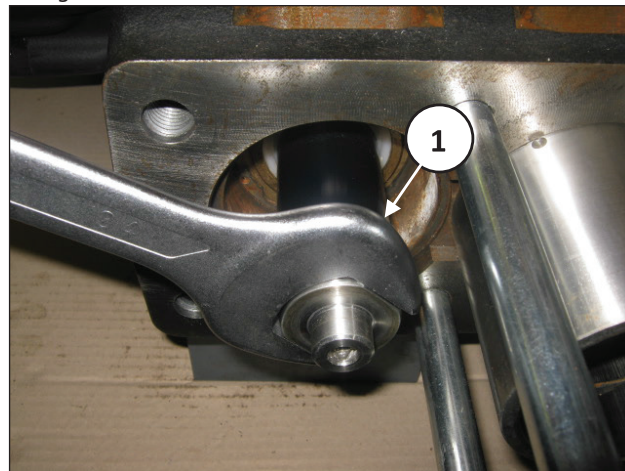

Fig. 128
After removing the head, release the spacers as shown in pos. ①, Fig. 128.